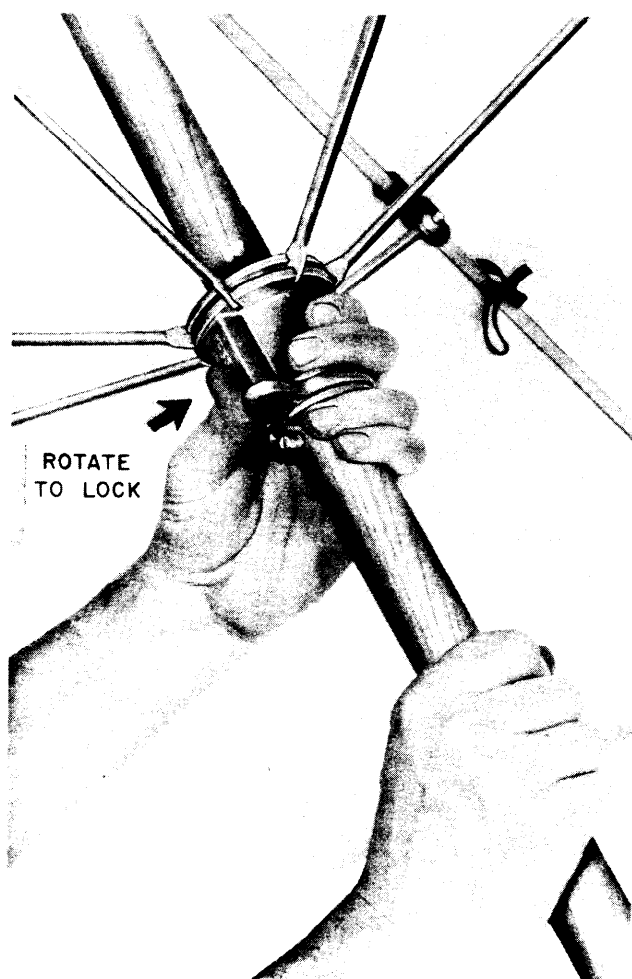
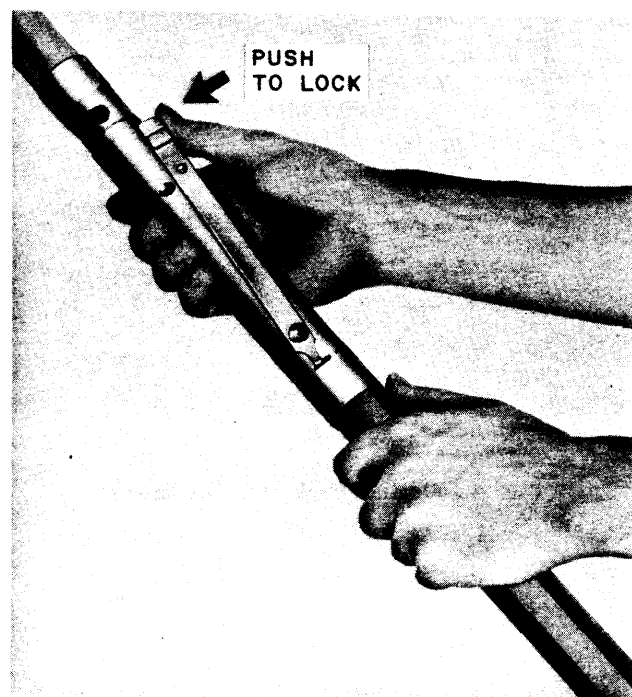

Fig. 2—Locking Open Umbrella
Fig. 3—Attaching Tree Pruner Extension Section to D Umbrella Handle
4.01 Locking the umbrella in the open position is illustrated in Fig. 2. Attaching a small tree pruner extension section is illustrated in Fig. 3. If the section is too long, cut off to desired length.